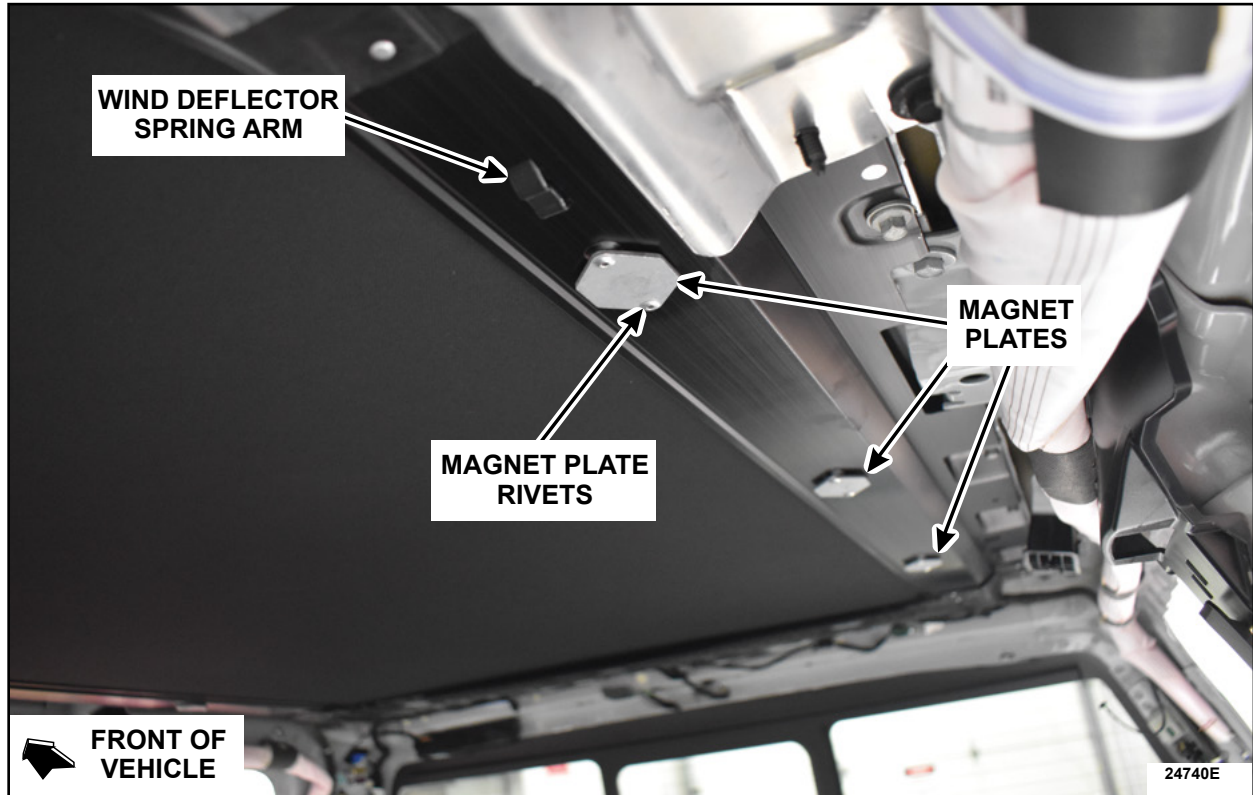

FIGURE 5
5. Using isopropyl alcohol, clean the area around the wind deflector spring arm and each of the magnet plate rivets on both sides of the vehicle. See Figure 5.